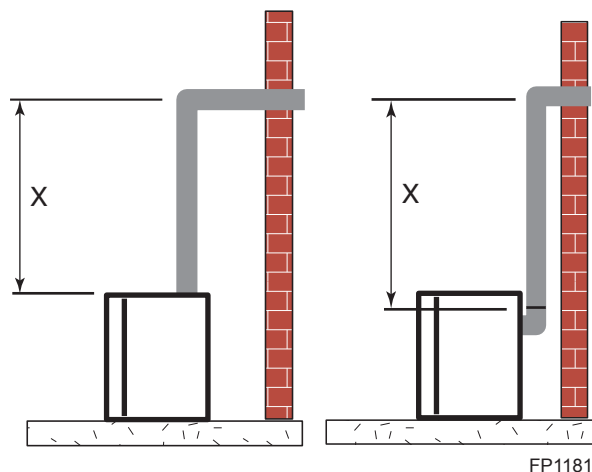

Figure 29 - Vertical Height Requirements
Place fireplace into position. Measure the vertical height (X) required from the base of the flue collars to the center of the wall opening. *Figure 29*